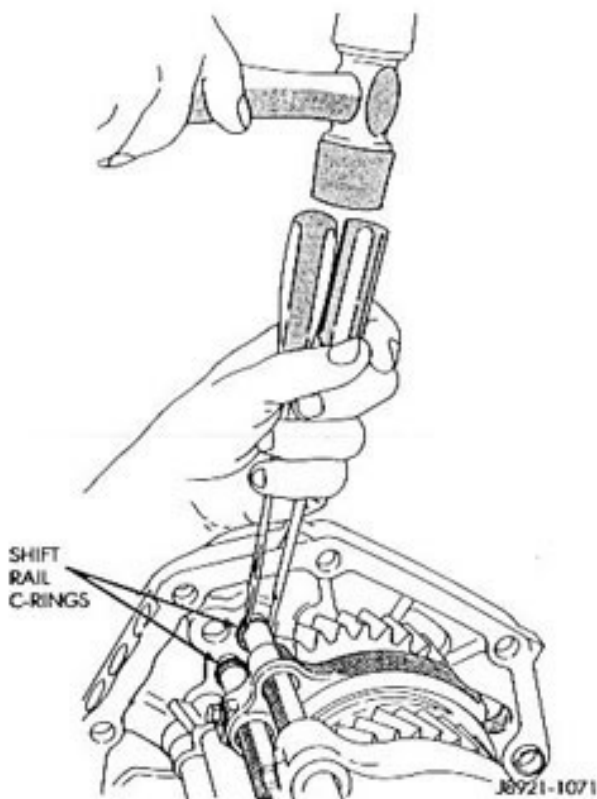

Fig. 42 Removing Shift Rail C-Rings
(2) Remove the 1-2 and 3-4 shift rail C-rings with two screwdrivers of equal size and length (Fig. 42).